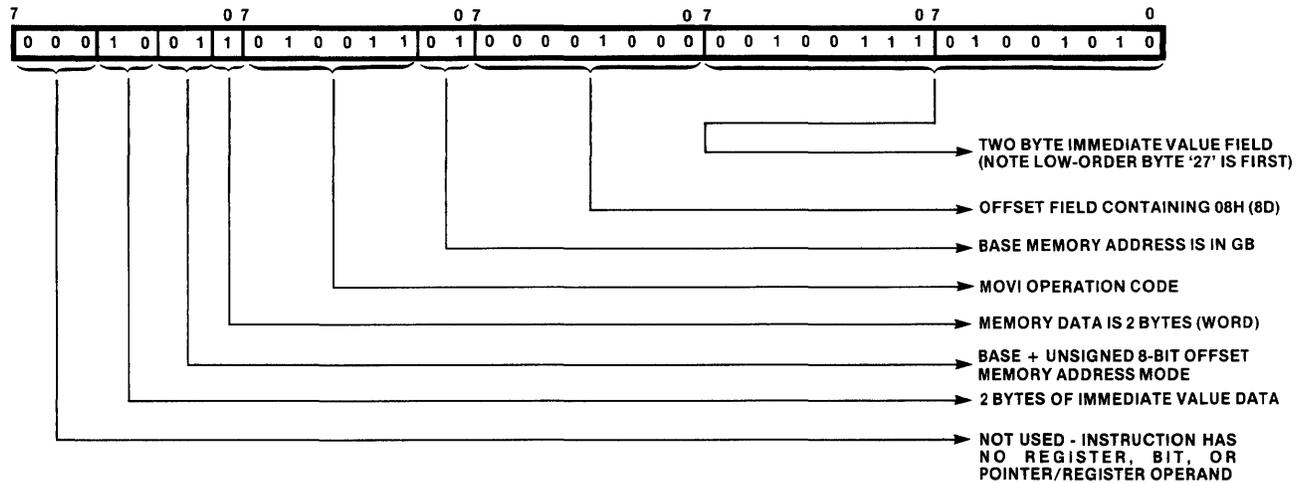

Figure 3-3. Assembled Encoding of MOVI [GB].8, 4A27H
2. Figure 3-3 shows the assembled instruction MOVI [GB].8, 4A27H